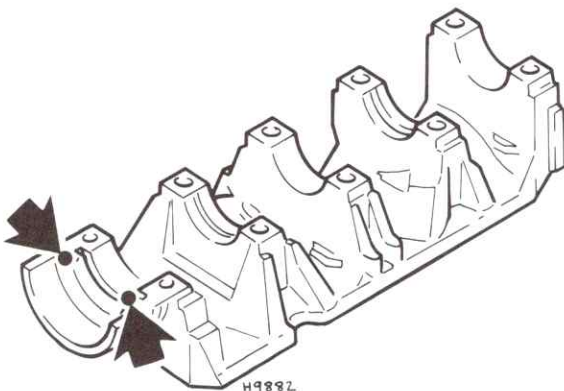

Fig. 13.2 Apply sealant to arrowed areas when refitting the main bearing cap (Sec 4)
- 9 When refitting the main bearing cap as described in Chapter 1, Section 20, apply a dab of sealant to the areas shown in Fig. 13.2.